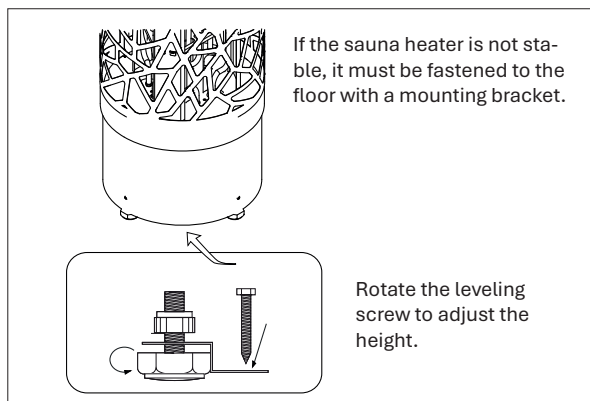

Fig. 2
1. The floor-standing heater must be securely fastened to the floor to prevent accidental movement or tipping over (see Fig. 2).